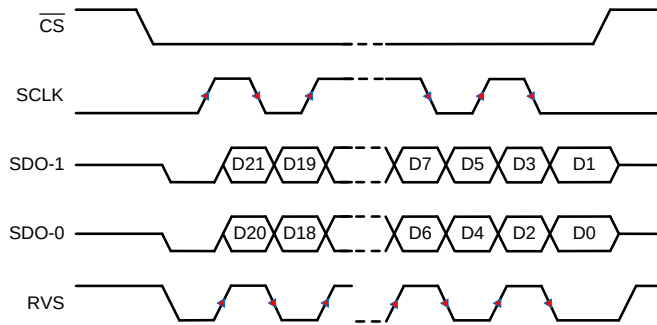

**Figure 79. SRC-EXT-DD: SRC, SCLK, Dual SDO, DDR**
| SRC-EXT-DD | SCLK (1)       | Dual      | DDR              |                                      | 1Bh      | 5                                  | <a href="#">Figure 79</a> |